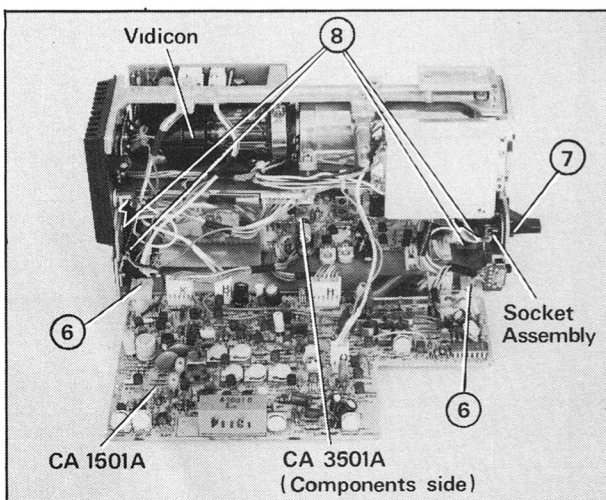

Fig 3.10
- (10) Remove the two screws **6** from the hinges located at the bottom of the body as illustrated in Figure 3.10
- (11) Remove the screw **7** from the socket assembly as shown in Figure 3.10
- (12) Remove the four screws **8** as shown in Figure 3.10 to remove CA 3501A.